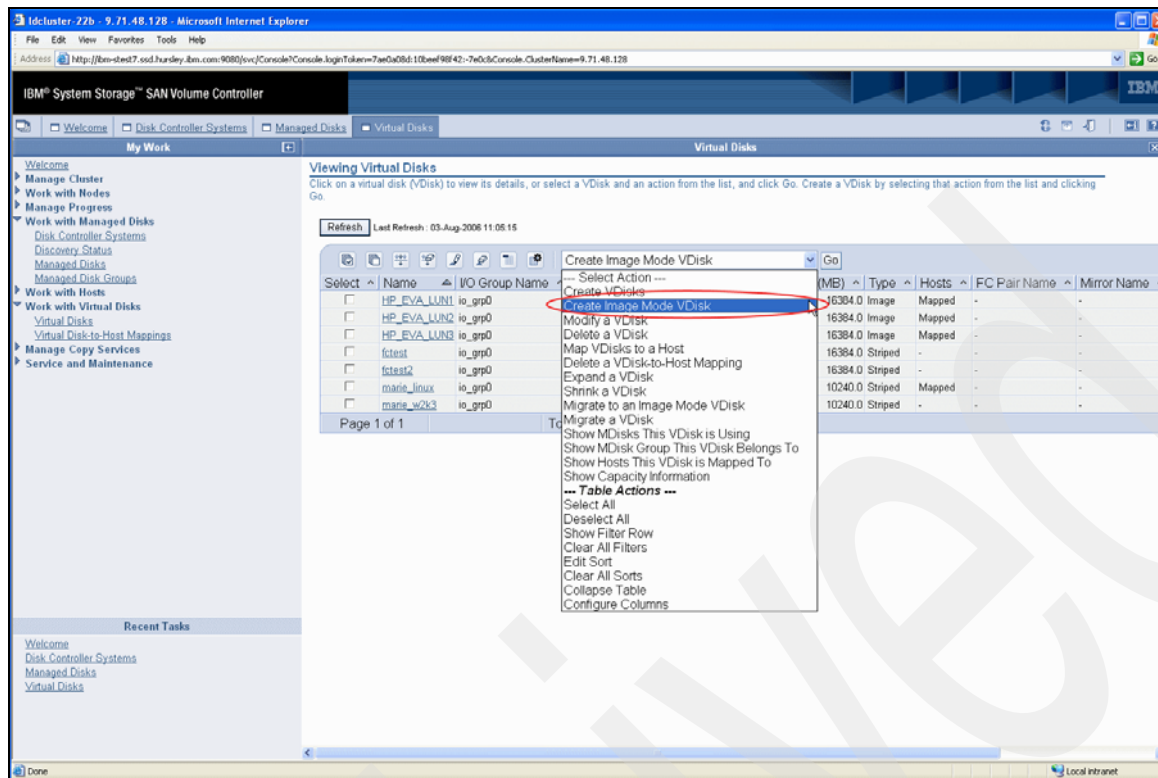

Figure 6-17 Create Image Mode VDisk
3. From the drop-down menu select **Create Image Mode VDisk**. Figure 6-17 on page 142 illustrates selecting this option.